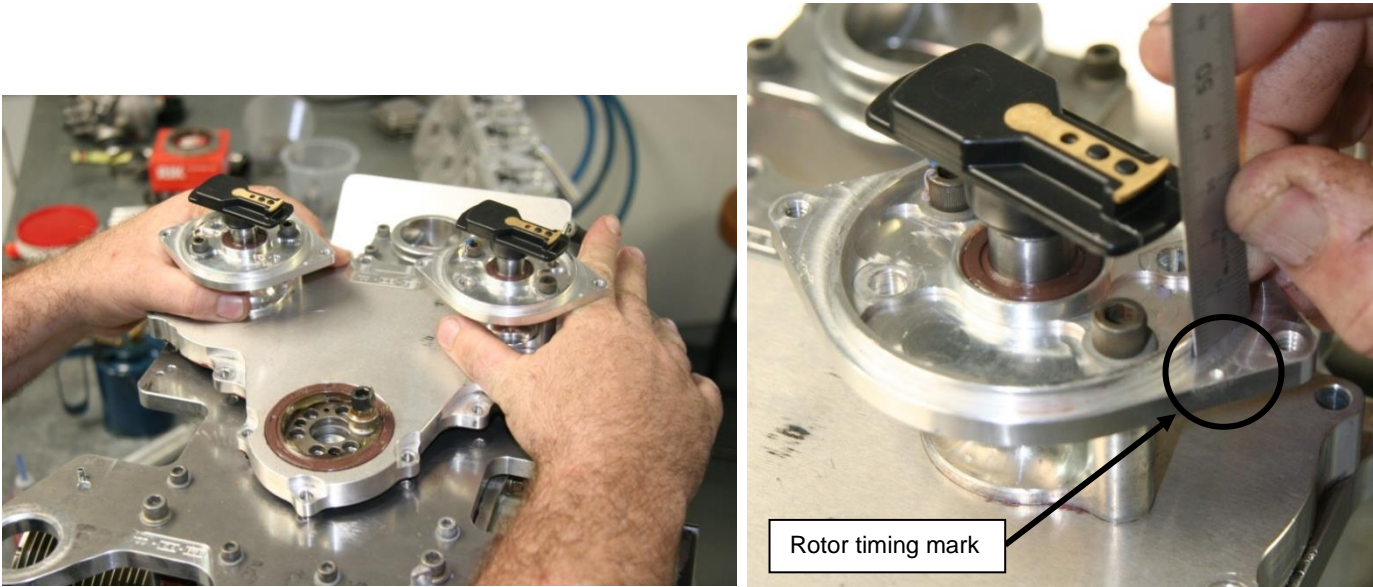

Figure 178 – Setting Distributors, Checking Rotor Position
- In this engine position manually align both distributor rotors to point to the timing mark engraved on the distributor mount plate – use a ruler to check that they are nearly parallel as shown in Figure 178. They will not be exactly parallel but they should be close – and provided the timing mark lines up with the tip of the cap it will work properly. Carefully lower and mesh the distributor gears with the outer camshaft gear.